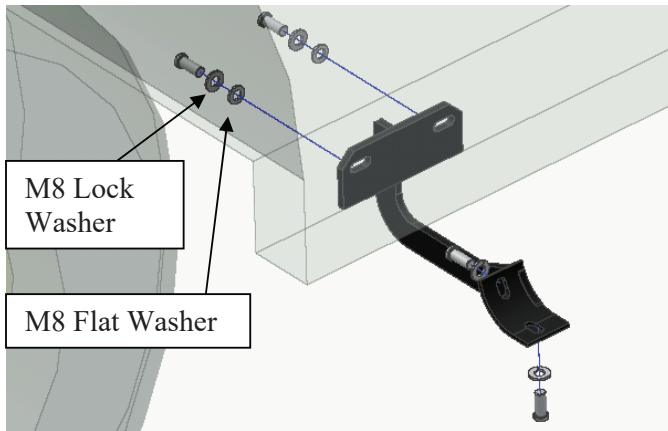

Figure 1.2 - Front and Center Bracket
3. Attach front and center brackets (same bracket) to the inside rocker panel where the drain plugs were removed using (4) M8 – 1.25 x 30mm Hex Head Bolts, (4) M8 Lock Washers, and (4) M8 Flat Washers(see Figure 1.2). Hand tighten.